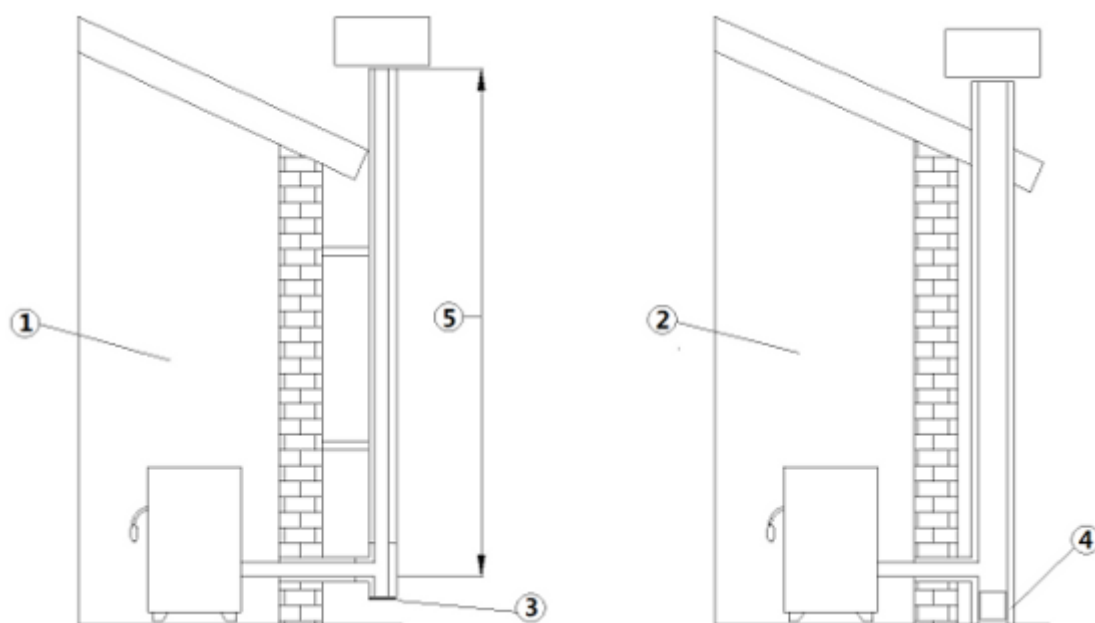

Fig. 2 - Chimney Flues
LEGEND	Fig. 2 page 5
- The chimney flue must be sole (see **Fig. 2 page 5**) with insulated stainless-steel pipes (1) or installed on the existing chimney flue (2).
- Both this solutions must be endowed with an inspection plug (3) and/or an inspection door (4).